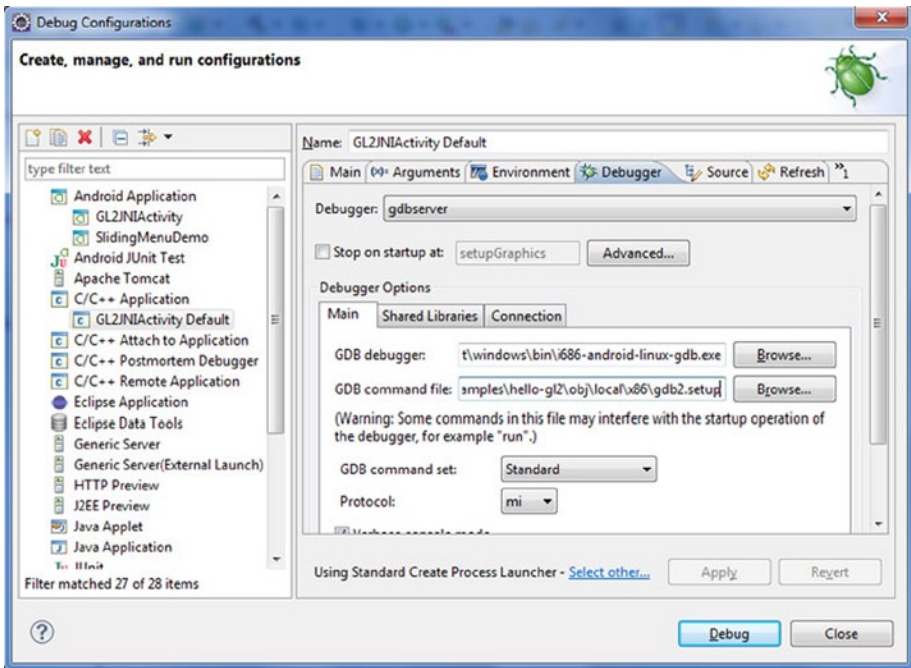

Figure 8-23. Debugger Setting Panel
9. Go to the debugger file and set the debugger type to `gdbserver`. Set the GDB debugger to `android-ndk-r8\toolchains\x86-4.4.3\prebuilt\windows\bin\i686-android-linux-gdb.exe`. The GDB command file (see Figure 8-23) needs to point to the `gdb2.setup` file located in `\obj\local\x86` (you can use an absolute or relative path).